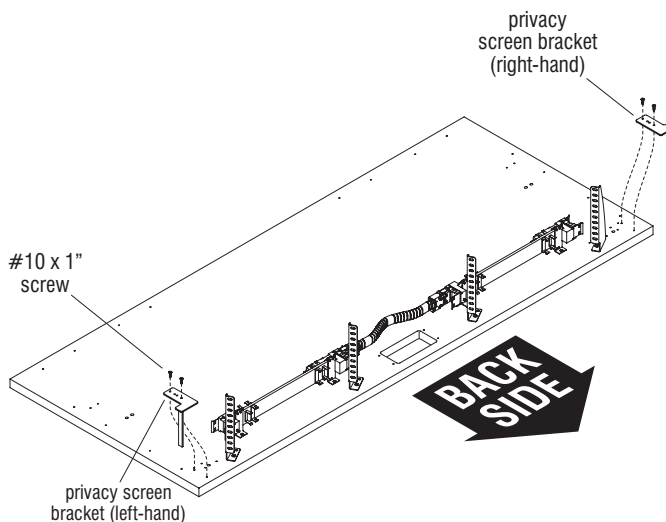

Figure 7 - Single-Sided Fixed Benching with 10-Wire Electrical, Modesty Panels & Privacy Screens
7. If the Connection Zone being assembled includes privacy screens, privacy screen brackets must be installed at this time. Locate the pre-drilled mounting holes for the right-, left-hand & inline (if specified) privacy screen brackets at the underside of the worksurface. Secure each bracket using two #10 x 1" screws as illustrated (Figure 7).